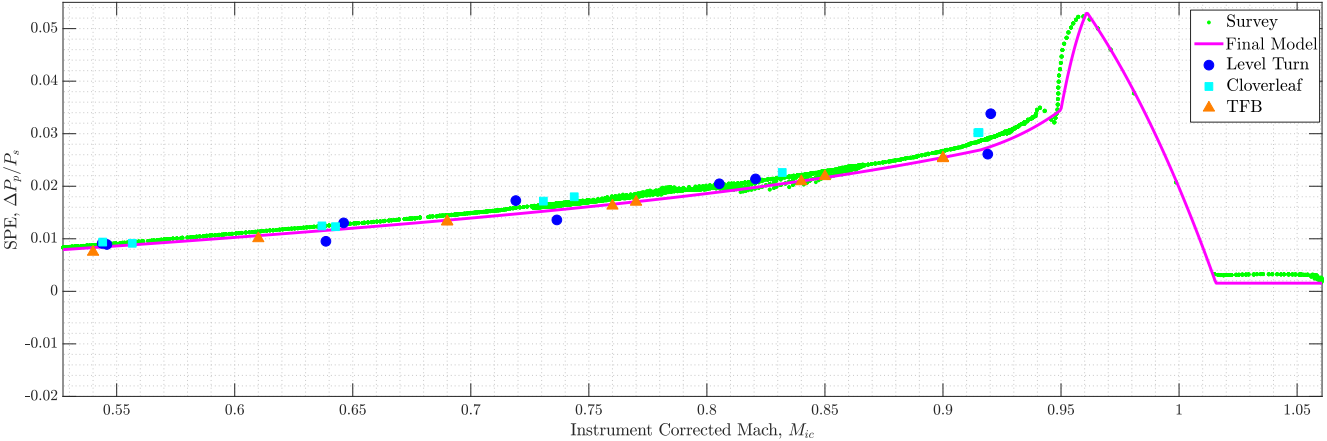

Figure 3: T-38 Static Source Position Error Curve
Finally, we have computed a pressure error in the form $\Delta P_p / P_s$. Now we can use it to infer airspeed and Mach number errors. Remember that this error is a function of Mach number, angle of attack, load factor, etc. Therefore, this single $\Delta P_p / P_s$ we have computed is only a point on a curve such as the example shown in Figure 3, and only valid for a particular weight band and load factor. Let's start with finding the airspeed position error using V_{ic} and the result from (16):